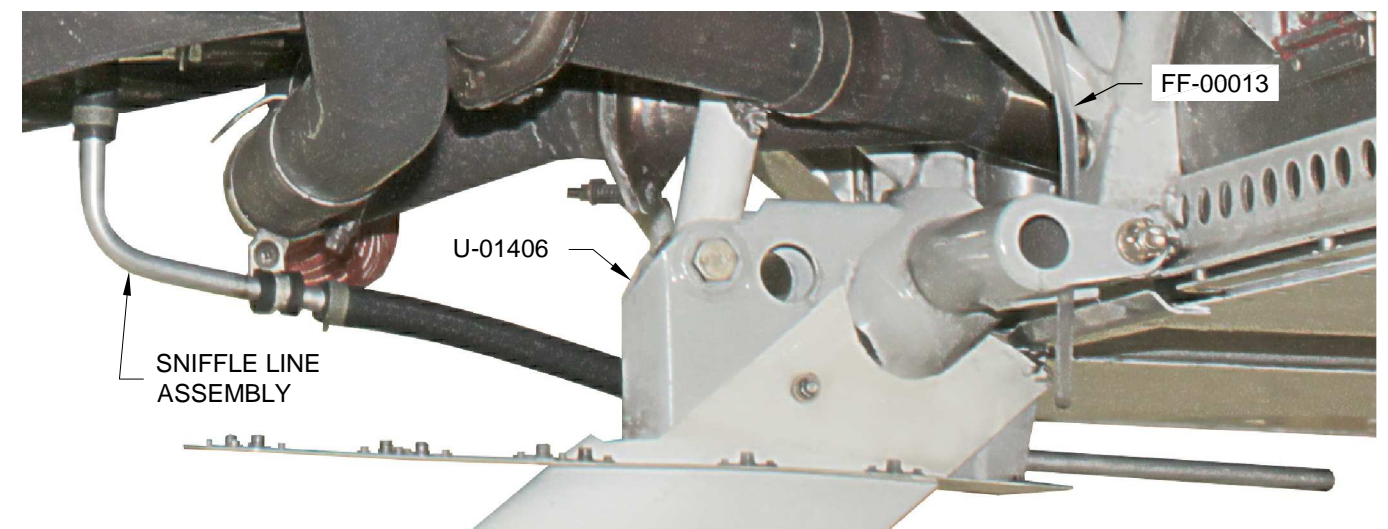

FIGURE 4: SNIFFLE LINE ASSEMBLY INSTALLATION (TRI-GEAR ONLY)
Step 6: (Tri-Gear Only) Route the FF-00013 Fuel Pump Overflow Tube behind the U-01406 Nose Gear Leg as shown in Figure 4.